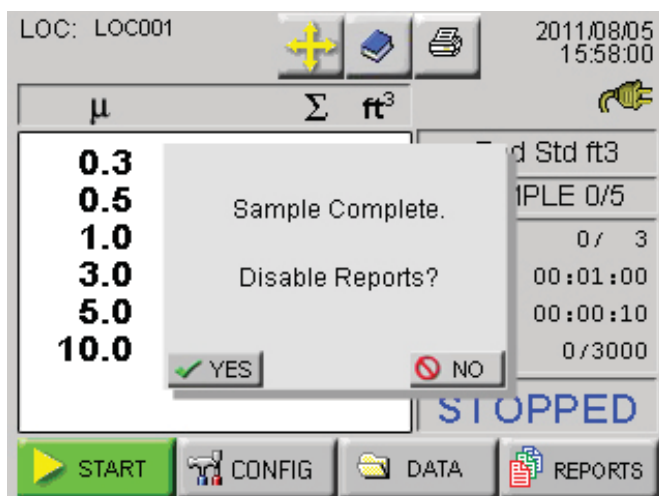

Figure 6-80 Disable Reports Prompt
- After the required number of samples have been completed, the instrument will prompt the user to disable Reports Mode as shown in Figure 6-80.